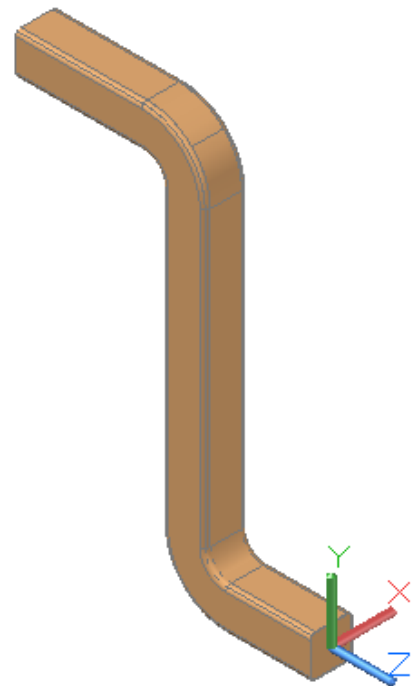

Figure Step 15A
Step 15 Use the SWEEP command, as shown below, to sweep both profiles along the path in one command. (Figure Step 15A and 15B)